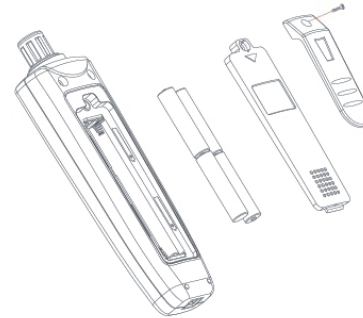

Figure 3
• Replacing the Battery (See Figure 3)